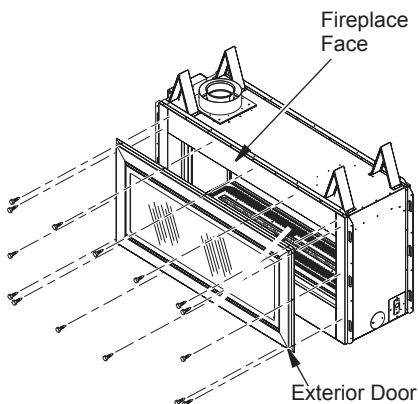

Figure 10 - Installing Exterior Door for See-Thru In/Out Application
- Using self tapping screws (provided) secure exterior door to the face of the fireplace by drilling through holes on door into the fireplace face (Figure 10). You may chose to drill pilot holes into the face using a 1/8" drill bit. Do not use self tapping screws, use any #10 x 1/2" screw.